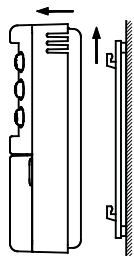

Fig. 2
2. Release the wall mount plate fitted under the base of the chronostat as shown in Fig. 2.